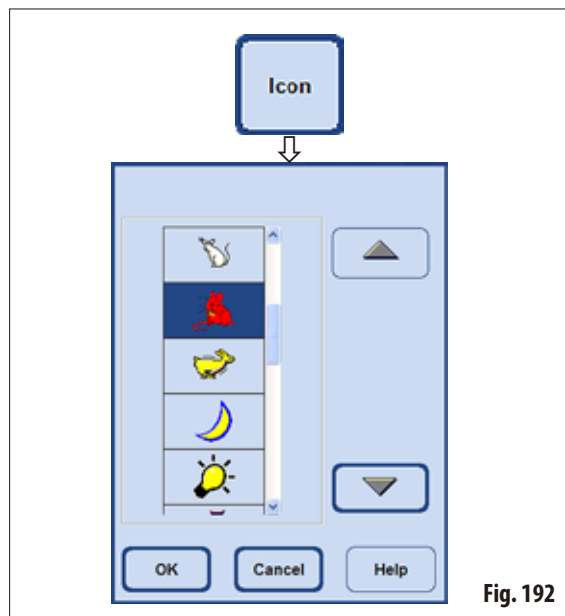

Fig. 192
- Press the **ICON** button; a selection window showing various symbols will appear (Fig. 192).